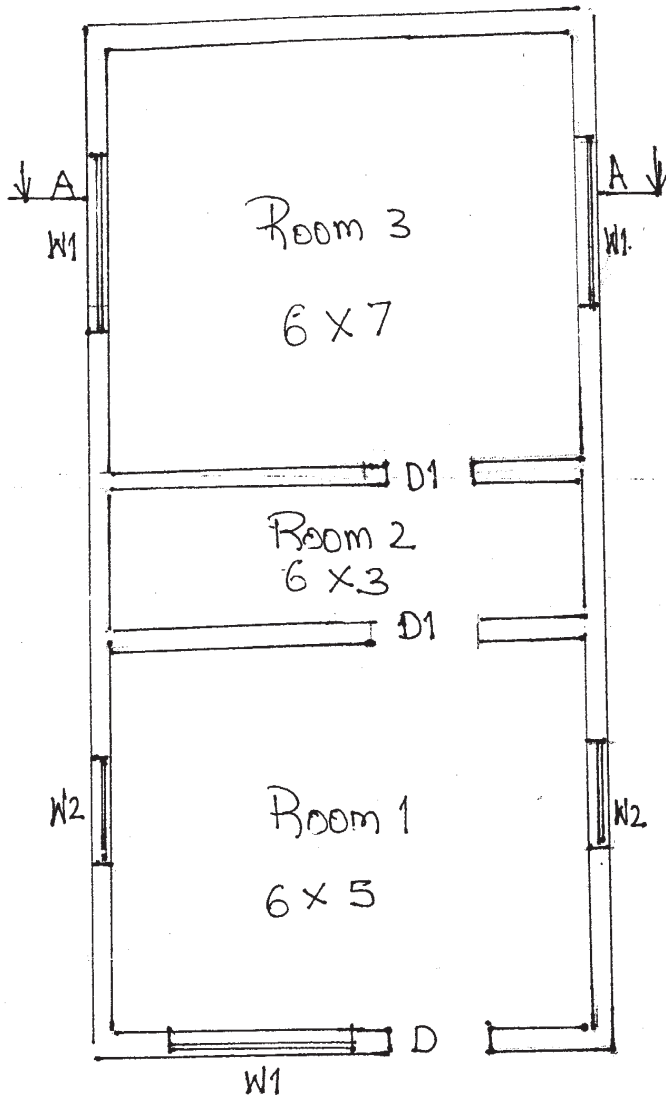

fig 1. Plan
- b) For the plan and sectional details given in fig 1 & 2, prepare a detailed estimate for the following item of work.